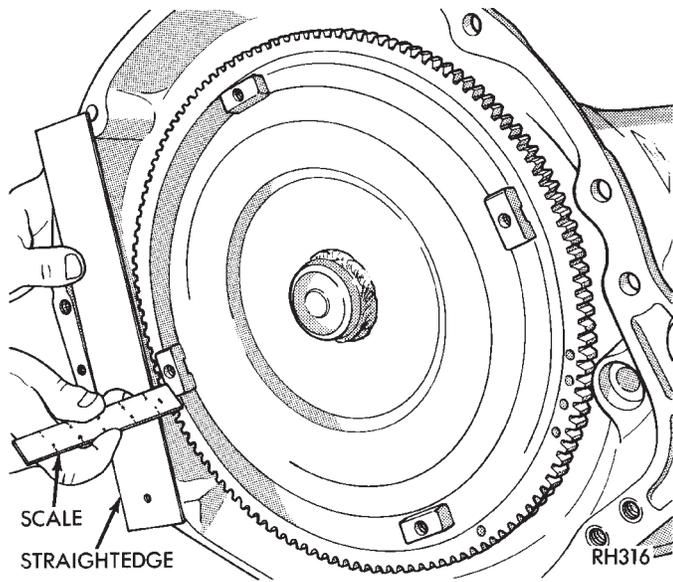

Fig. 28 Checking Torque Converter Seating
(3) Align torque converter to oil pump seal opening.
(4) Insert torque converter hub into oil pump.
(5) While pushing torque converter inward, rotate converter until converter is fully seated in the oil pump gears.
(6) Check converter seating with a scale and straightedge (Fig. 28). Surface of converter lugs should be 1/2 in. to rear of straightedge when converter is fully seated.
(7) If necessary, temporarily secure converter with C-clamp attached to the converter housing.
(8) Install the transmission in the vehicle.
(9) Fill the transmission with the recommended fluid.